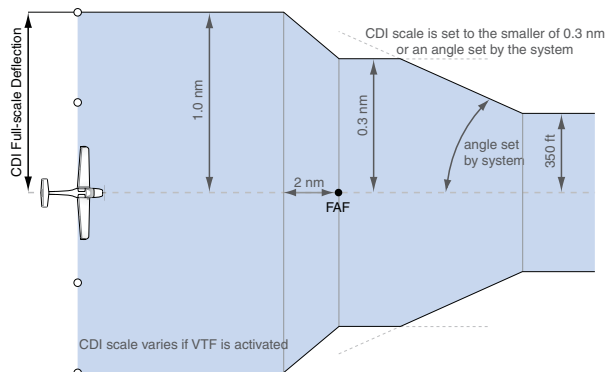

Figure 2-23 Typical LNAV and LNAV+V Approach Service Level CDI Scaling
- During **approach**, the CDI scale ramps down even further (Figures 2-23 and 2-24). This transition normally occurs within 2.0 nm of the final approach fix (FAF). The CDI switches to approach scaling automatically once the approach procedure is activated or if Vectors-To-Final (VTF) are selected.